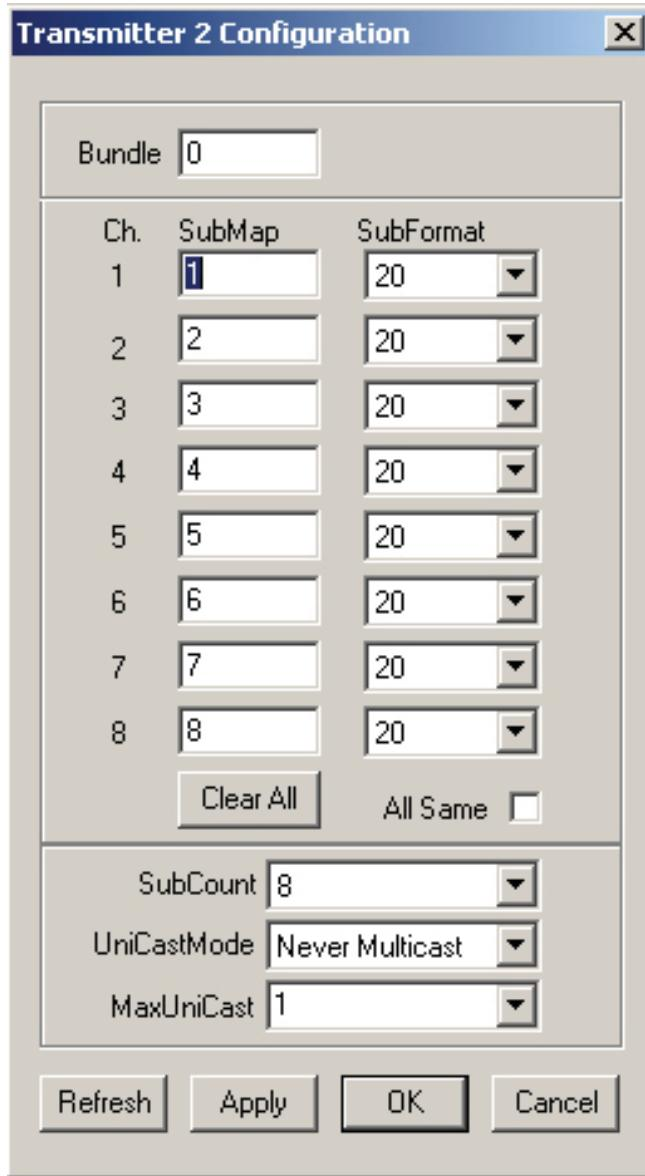

Figure 4-2: CobraNet™ Transmitter settings page
- Transmitter setup: This section covers the CobraNet™ transmitters (see Figure 4-2). The CS496112 chipset allows for up to 4 transmitters, each of up to 8 channels, subject to an overall channel count of 2 analog input channels and 8 network audio streaming channels. The settings are: